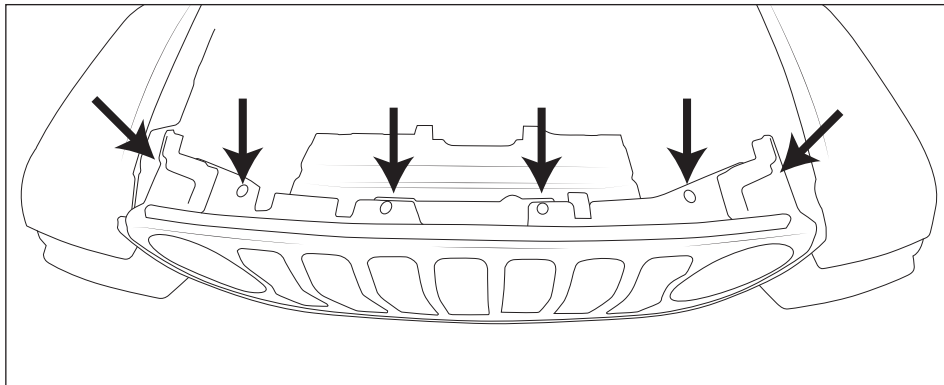

Figure 2
- B. Open the hood and remove the 6 plastic push-rivets retaining the top of the grill shell to the radiator support (fig. 2). Remove the grill by grabbing the bottom flange and pulling straight outward. Once the push-rivets are removed at the top, the grill is only held in by the spring clips at the bottom. Don't pull too far, as the wiring harness and washer hose are still attached to the grill.